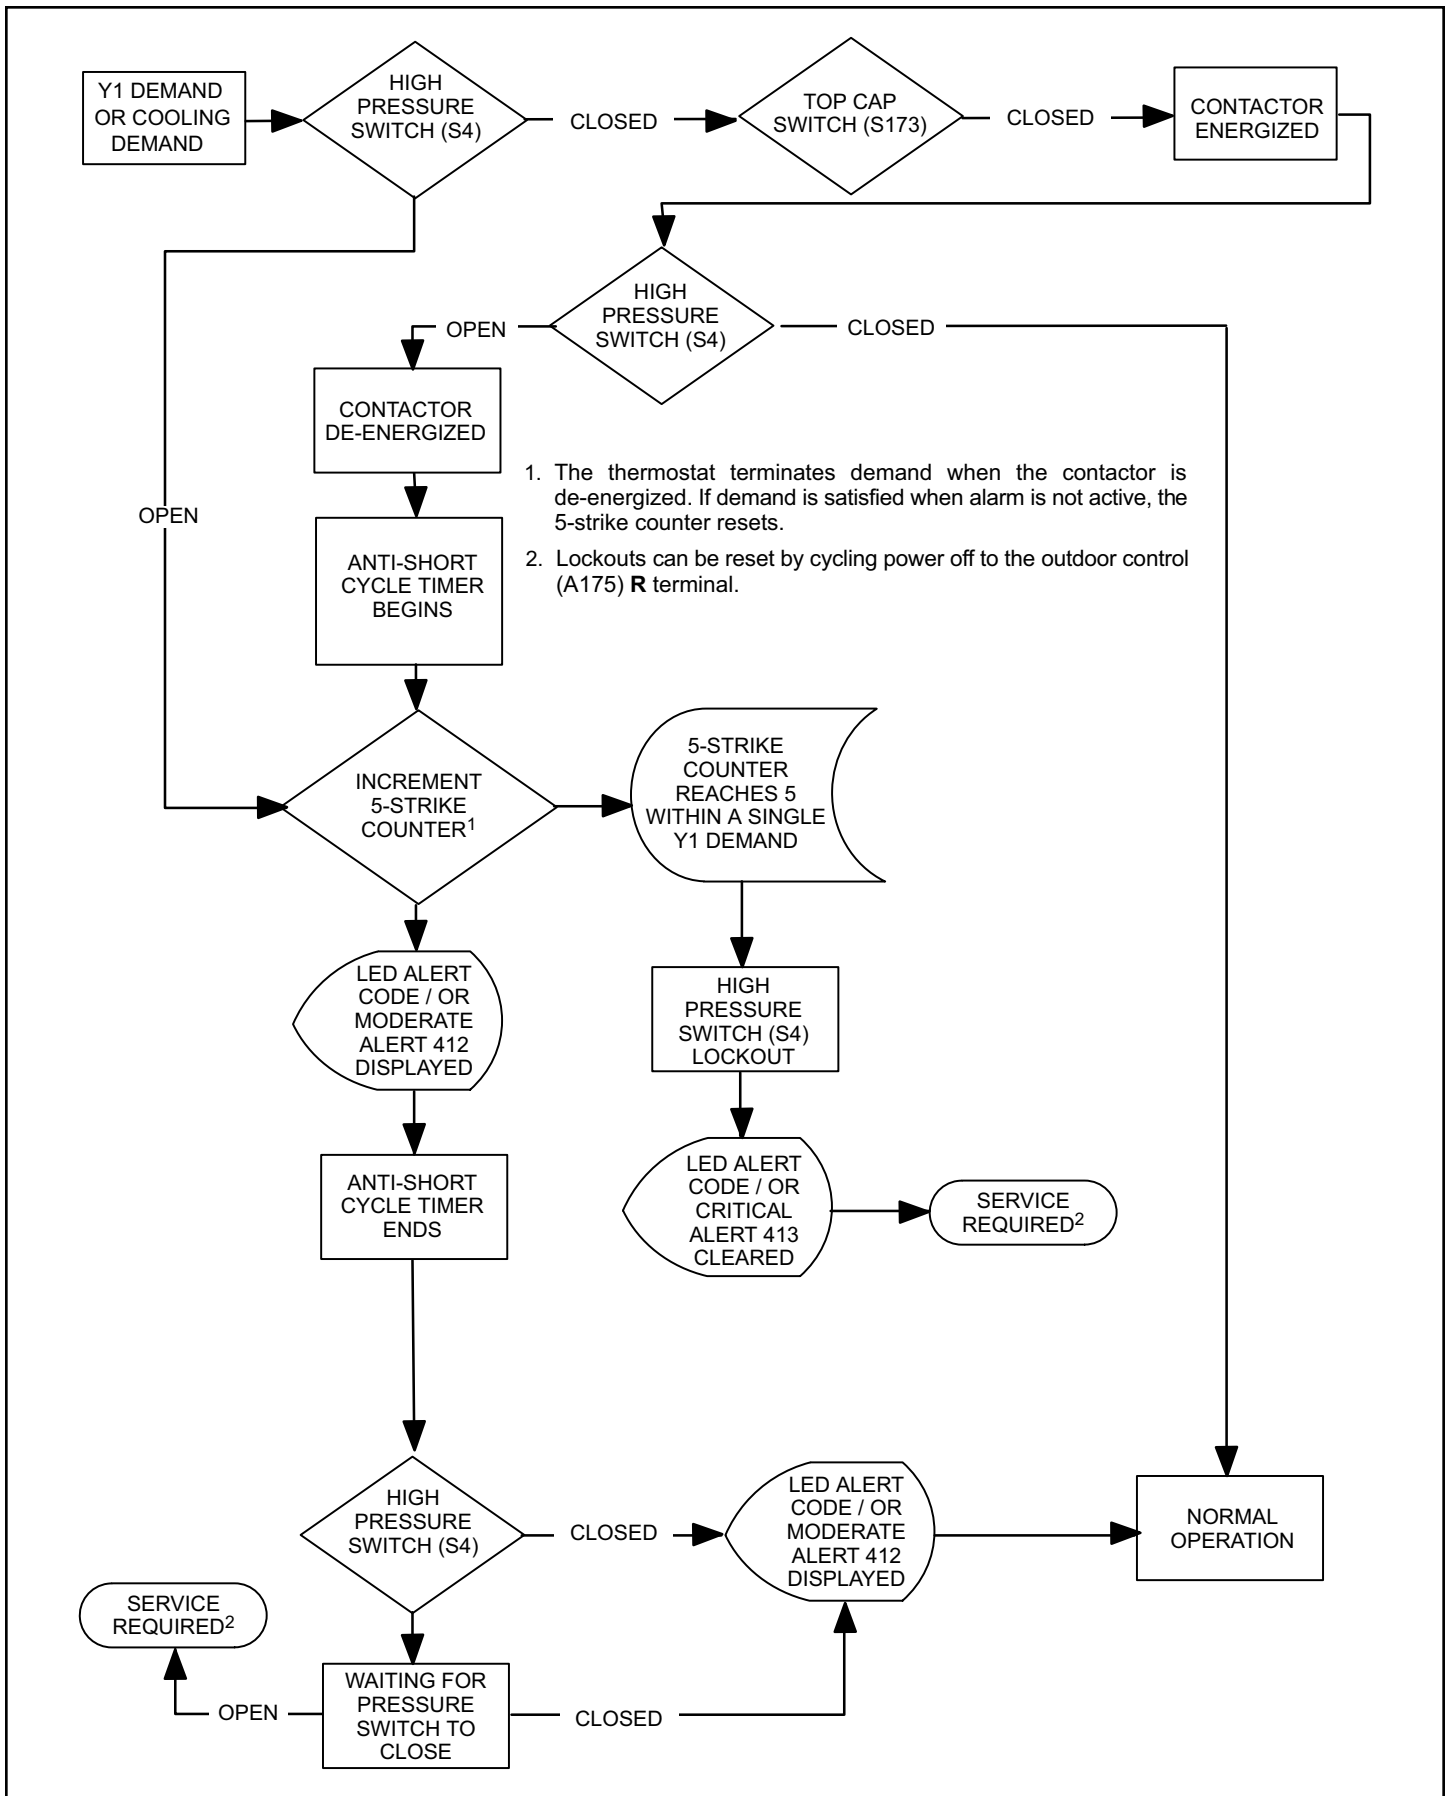

Figure 34. High Pressure Switch (S4) Sequence of Operation (All Versions)
**High Pressure Switch (HI-PS)** – See Figure 34 for high pressure switch sequence of operation.